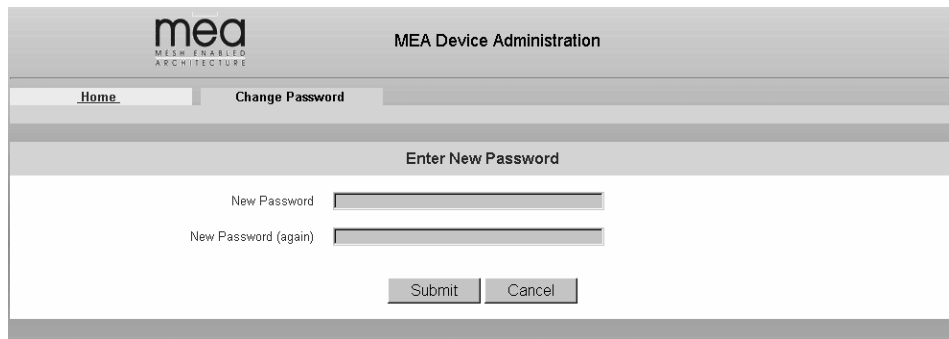

Figure 16. MEA Device Administration Enter New Password Window
2. “Enter the new password” will be displayed on the Change Password window as shown in Figure 16. Enter the new password in the “**New Password**” textbox.